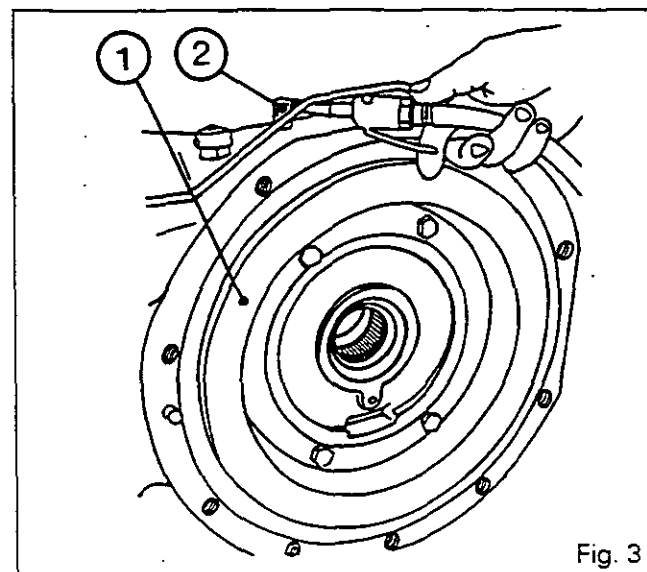

Fig. 3
5. Withdraw the piston (1) from the housing with a jet of compressed air applied to the connector (2) (Fig. 3).